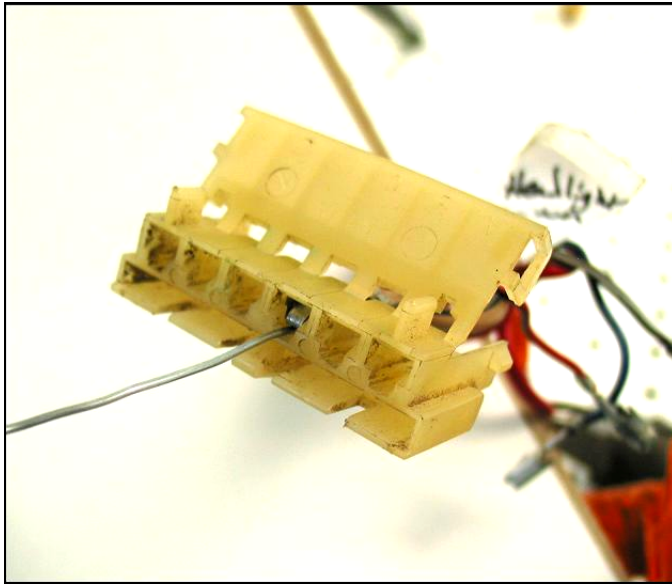
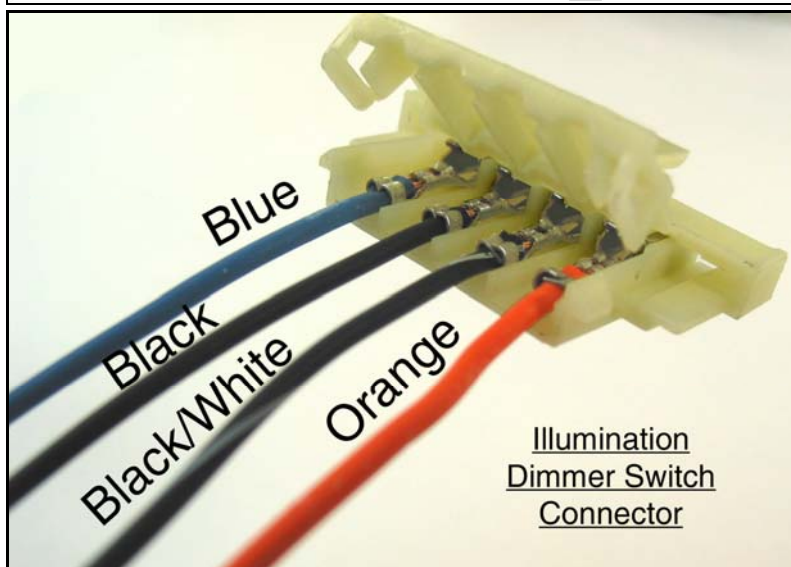

Figure 7.1.2 Headlight Switch Terminal Removal
Figure 7.1.6 III. Dimmer Switch Pin Out
- 7.1.2 Remove the factory terminals by using a terminal pick or stiff wire, such as a paperclip. Insert the wire or pick as shown in **Figure 7.1.2**. Doing so will depress the locking tang and the factory terminal and wire can be removed from the connector. Make sure the terminal position lock is undone or the terminal will not come out.
- 7.1.6 The PANEL DIMMER SWITCH wires come pre-terminated. The factory connector will need to be reused. The terminals remove just as the HEADLIGHT SWITCH terminals did. Use **Figure 7.1.2** and **Figure 7.1.6** to re-pin this connector.